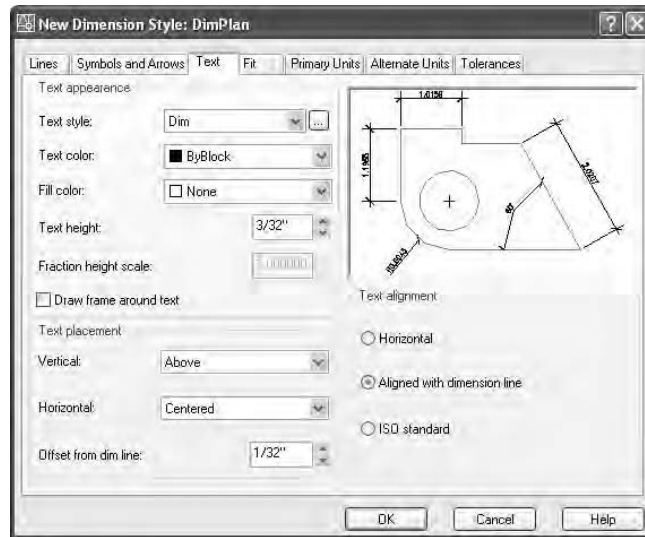

FIGURE 11.5: The Text tab with settings for the DimPlan style
1. Click the Text tab in the New Dimension Style dialog box. Settings in three areas affect the appearance and location of dimension text. Look ahead to Figure 11.5 for a graphic of the Text tab. The preview window appears in all tabs and is updated automatically as settings are modified. Move to the Text Appearance area in the upper-left corner of the dialog box where there are six settings that control how the text looks. We are concerned with only two of them.
7. Now move to the Text Alignment area. Two radio buttons control whether dimension text is aligned horizontally or with the direction of the dimension line. The ISO Standard option aligns text depending on whether the text can fit between the extension lines. Only one of the buttons can be active at a time. Horizontal should already be active. Click the Aligned With Dimension Line button. Notice how the appearance and location of the text has changed in the preview window. This finishes our work in this tab. The settings should look like those in Figure 11.5.